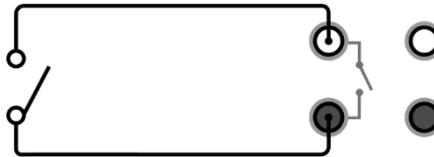

Figure 11 Mechanical Switch
- ◆ If mechanical switch is selected, connect the electric circuit as shown in Figure 11.